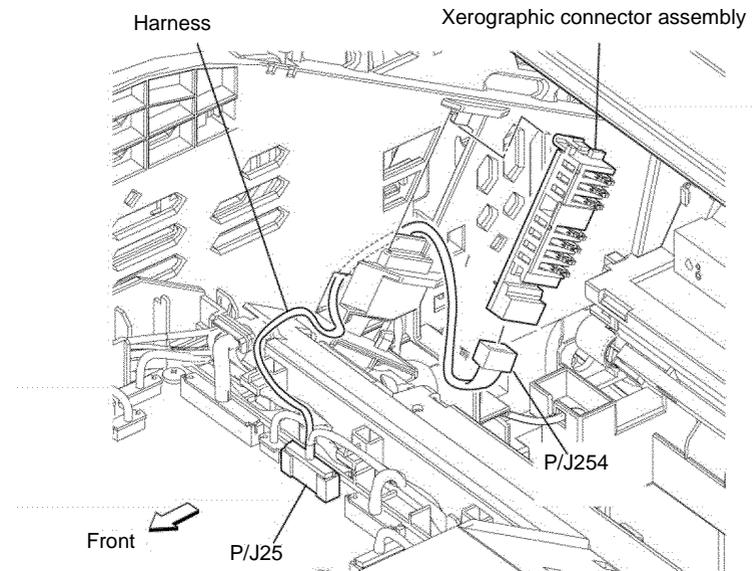

Figure 2 Xerographic connector assembly removal
6. Release the hook that fixes the xerographic connector assembly, and then remove the xerographic connector assembly, Figure 2.
7. Pull the yellow harness to create slack and disengage P/J254 from the xerographic connector assembly, Figure 2.